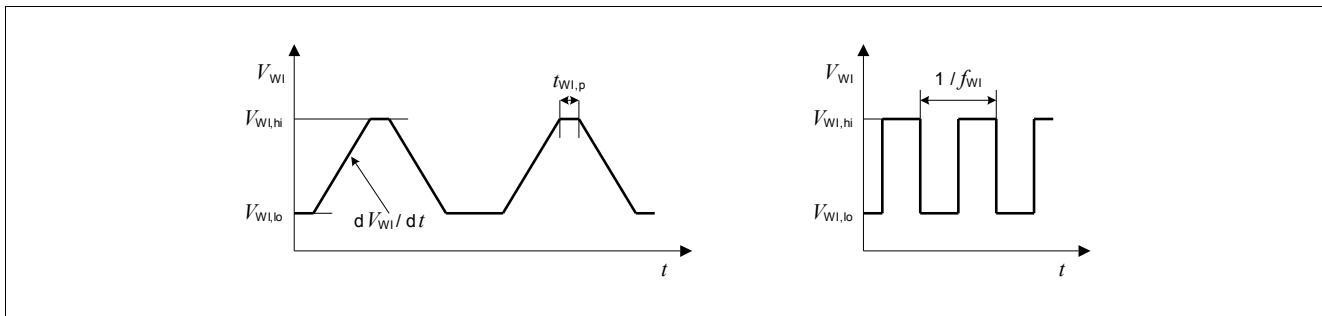

Figure 9 Test Pulses Watchdog Input WI
The watchdog is triggered by a positive edge at the watchdog input "WI". The signal is filtered by a bandpass filter and therefore its amplitude and slope has to comply with the specification Table "Watchdog Input" on Page 25 to Table "Watchdog Input Signal Slew Rate" on Page 25. For details on the test pulse applied, see Figure 9.
3) For details on the test pulse applied, see **Figure 9**.